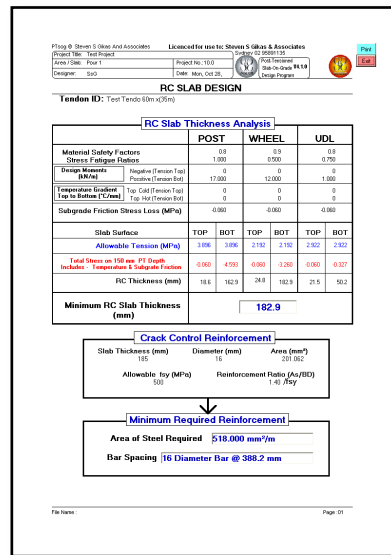

Figure 37: RC Slab Design
- Equivalent RC Design (Figure 37)